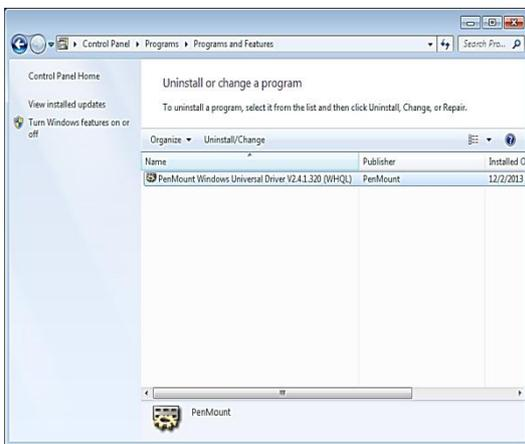

Figure. 106
Step 7: In “Control Panel “, choose “Uninstall or change a program”. Find “PenMount Windows Universal Driver Vxxx”, and click “Uninstall/Change” (Figure. 106).